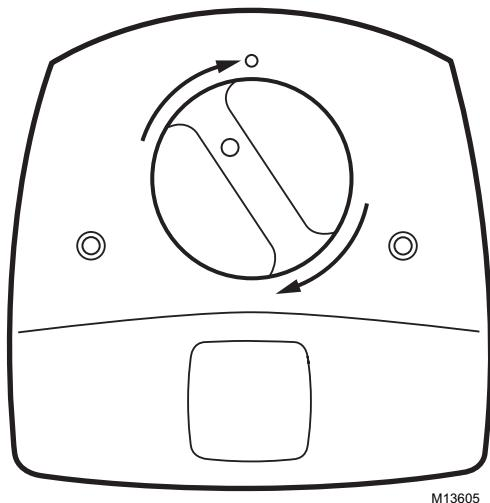

Fig. 17. Snap bulb into place.
- Rotate the lamp handle clockwise until it snaps into place with the lamp light indicator aligned with the raised button on the unit cover. See Fig. 17.
- 9.** Rotate the lamp clockwise until it snaps into place with the lamp light indicator aligned with the raised button on the unit cover. See Fig. 17.